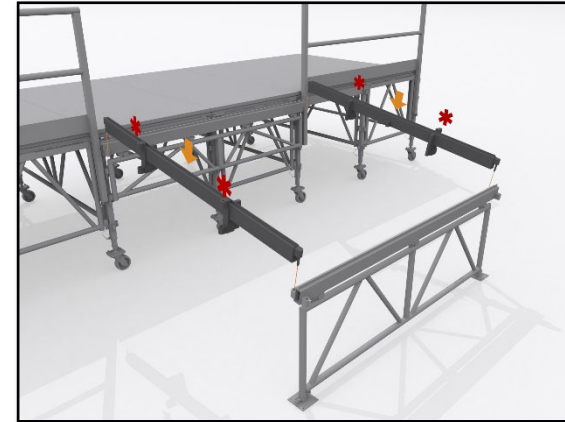

Fig. 43 – Secondary Beam Type One's
9.5.12 Locate 2 off Secondary Beam Type One's. Insert the connections at one end, into the Primary Beam Type One holes. Fit the other end into the Support Frame Type One holes. Ensure the handrail mounting points are facing the outside. *Fig. 43 – Secondary Beam Type One's*